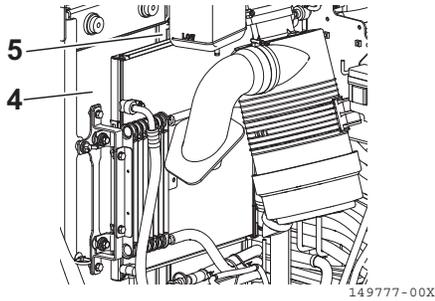

Fig. 8-51
4. Clean off any mud, dirt or leaves clogged between the fins of the radiator (**Fig. 8-51, 4**) and oil cooler (**Fig. 8-51, 5**) using a soft brush.